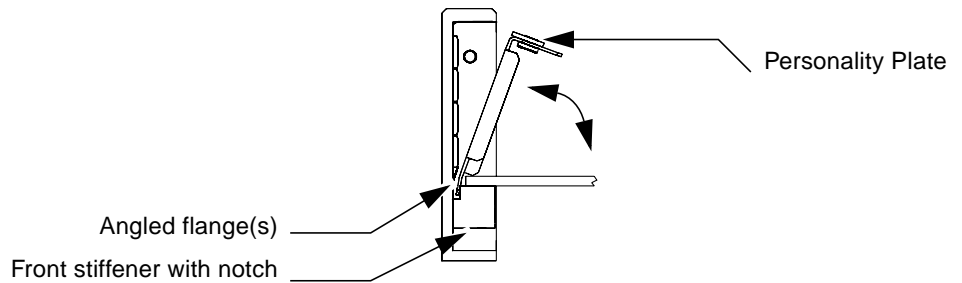

FIGURE 5 Personality Plate Removal (Top View)
2. Lift plate out as noted in top view (FIGURE 5 on page 7).